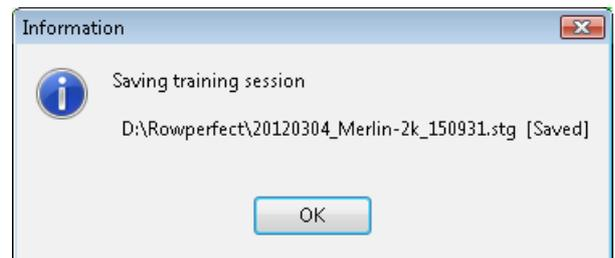

Figure 30: Training session saved
*SEAN* can also save a new or existing training session automatically (see D.17.5). This will show a dialogue stating file and folder name, as in Figure 30.